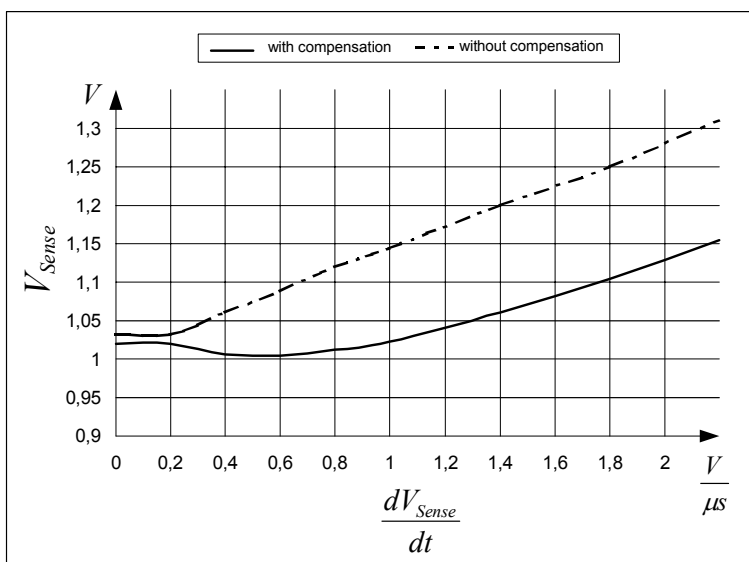

Figure 12 Propagation delay compensation curve
The maximum power of the system is changed with the input voltage; higher voltage got higher maximum power. This is due to the propagation delay of the IC and the different rise time of the primary current under different input voltage. The propagation delay time is around 200ns. But if the primary current rise time is faster, the maximum power will increase. The power difference can be as high as >14% between high line and low line. In order to make the maximum power control become tight, a propagation delay compensation network is implemented so that the power difference is greatly reduced to best around 2%. Figure 12 shows the compensation scheme of the IC. The equation (8) explains the rate of change of the current sense voltage is directly proportional to the input voltage and current sense resistor. For a DCM operation, the operating range for the dV_{sense}/dt is from 0.1 to 0.7. It can show in Figure 12 that higher dV_{sense}/dt will give more compensation; i.e. lower value of V_{sense} .